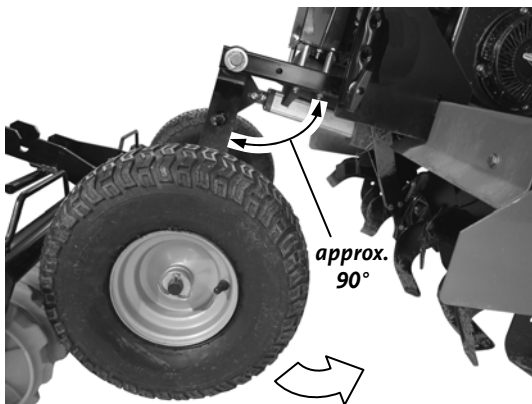

Figure 23
6. Use the ROTO-HOG Control Box to Raise the Tiller Tines to their uppermost position (Figure 23).